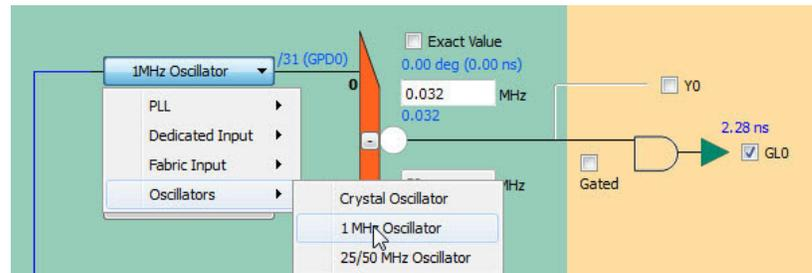

Figure 2-4 • Bypassing PLL as the Reference Clock Source
- In the Advanced tab, de-deselect PLL (to bypass the PLL) and select any one of the following as the clock source (Figure 2-4):